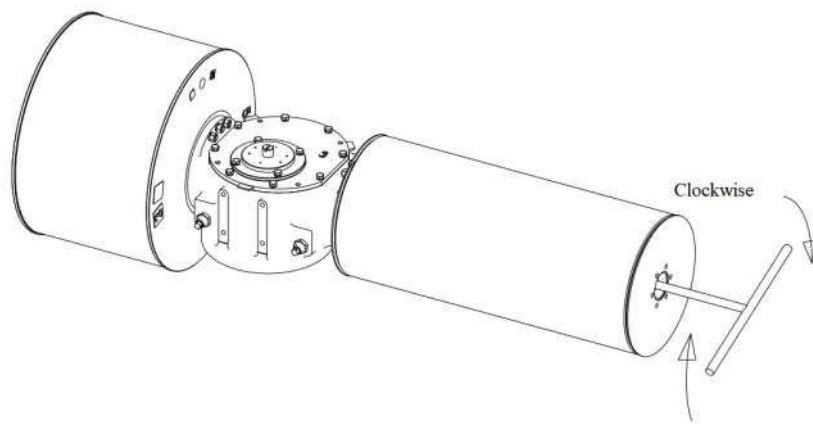

Figure 13
4) Rotate the special tool clockwise in the direction shown in Figure 13 to combine the spring rod with the transmission joint. Refer to Table 9 for the torque;